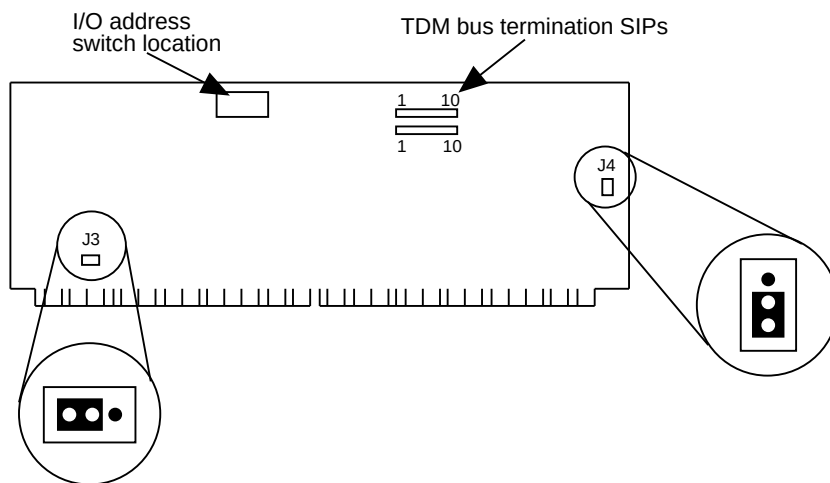

Figure D-66. Location of Jumpers and Switches on the Signal Processor Circuit Card (ACY2B only)
- AYC2B — see Figure D-66
The two jumpers on the AY2B SP circuit card are preset at the factory. However, before you install these cards, ensure that the jumpers are set as shown in Figure D-66.